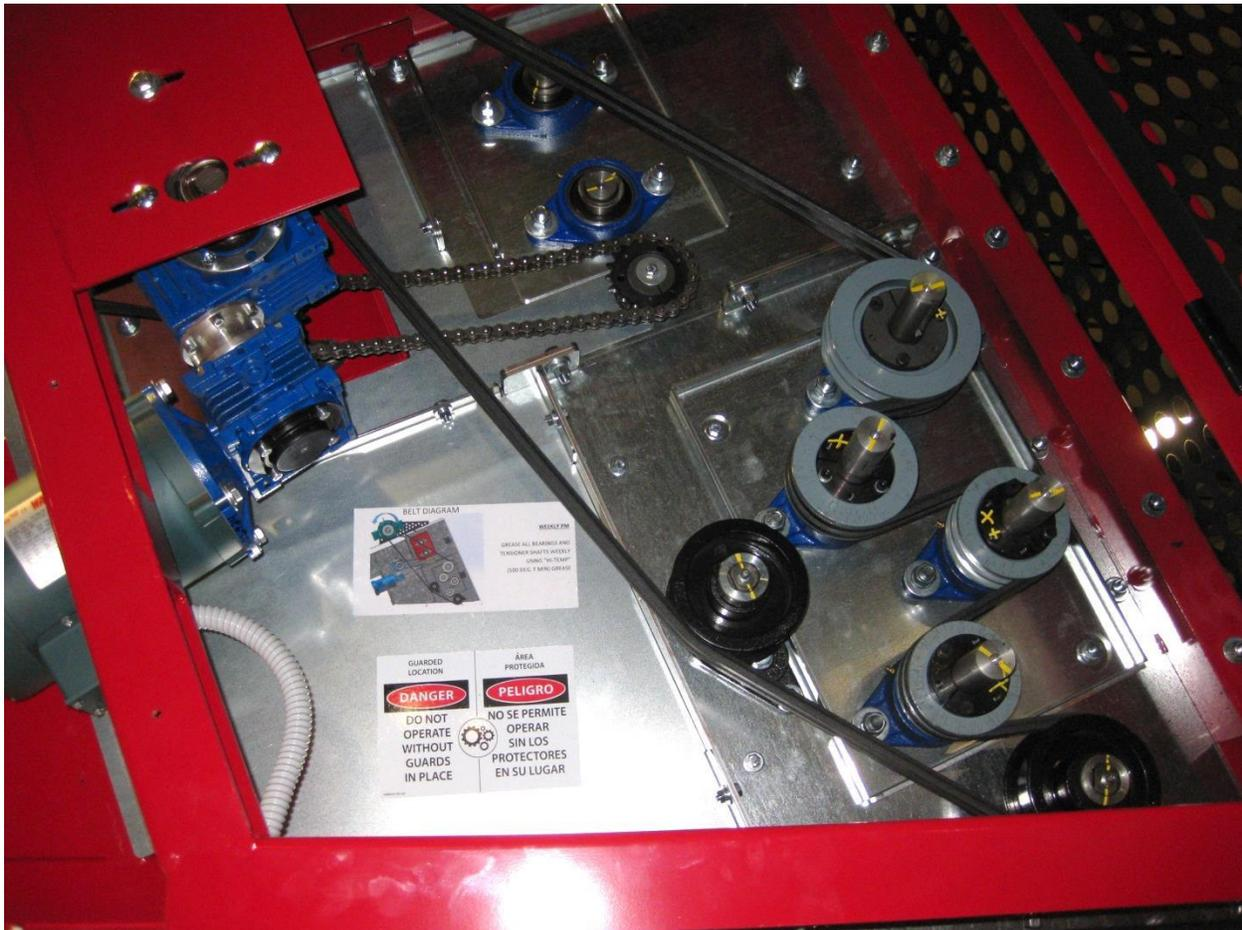

Figure 7
12. Set chain tension. Securely tighten motor/gearbox assembly. **See Figure 7.**